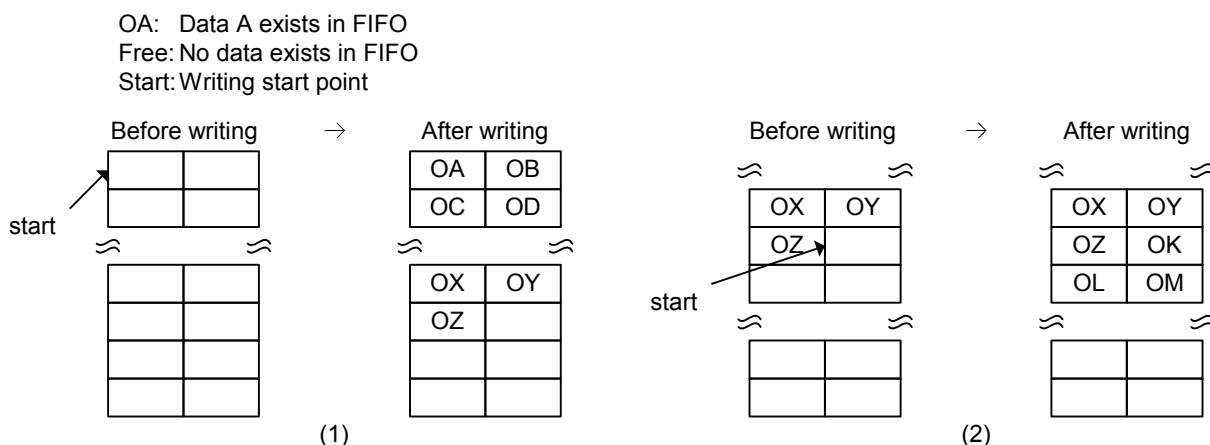

Fig. 1-77 FIFO writing processing (normal operation)
When setting the AREAnFIFO_Clr.ClrAREAx {x=0-5} bit and word writing from a state without byte boundaries and with odd data quantities, write the last byte (data Z) of the continuous data only to the High side. This situation is shown in Fig. 1-77 (1). Data is output from the USB in the sequence A, B, C, D .. X, Y, Z.
When writing from a state in which byte boundaries exist in the FIFO, first write the data to the Low side (write data K), then clear the byte boundaries before word writing (data L and M). This situation is shown in Fig. 1-77 (2).